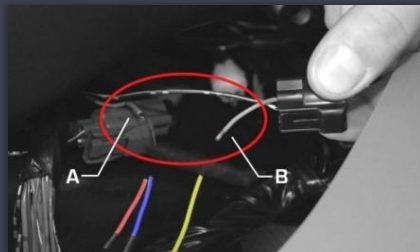
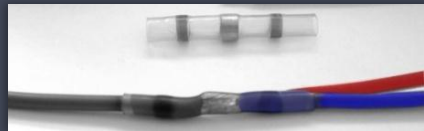
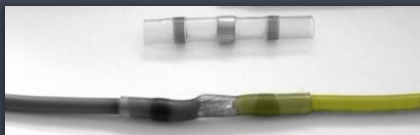

Fig 1
Fig.2
Fig.3
6. Cut the positive pole of ignition coil (on injector) near to the connector. (fig.1)
7. Connect the red and blue wire of GRIPone cable to the A end (fig. 1) by the heatshrinkable head junction (fig. 2).
8. Connect the yellow wire (of GRIPone cable) to the B end (fig. 1) by the heatshrinkable head junction (fig. 3).